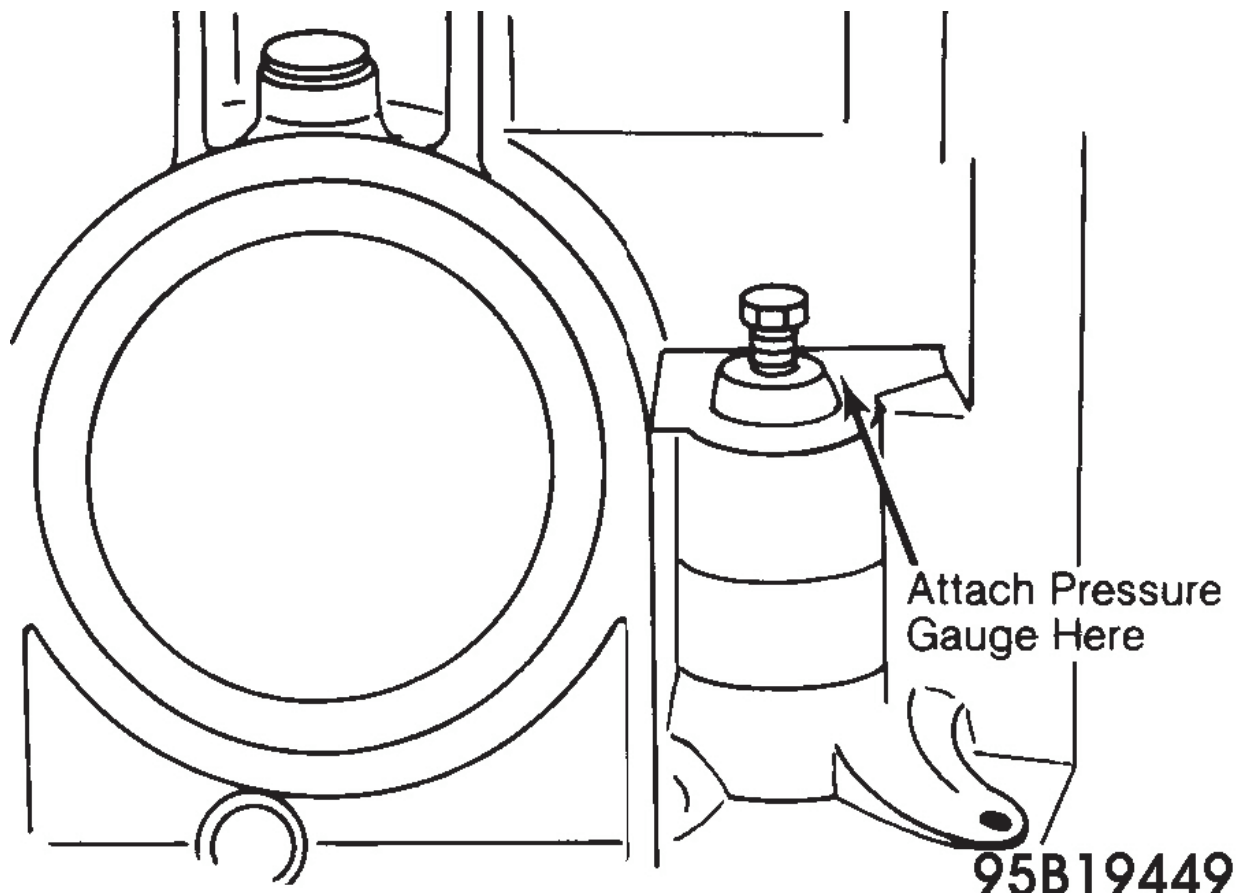

Fig. 3: Pressure Test Port Location
1. Connect 0-150 psi (0-10 kg/cm²) pressure gauge to main pressure test point on case (adjacent to servo cover). See **Fig. 3**. With transaxle, at normal operating temperature, place selector lever in "D".